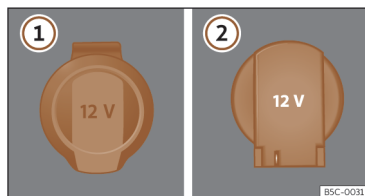

Fig. 143 12 volt power socket: ① inside the front armrest, ② in the luggage compartment.
- Lift the power socket cover >>> **Fig. 143** ①.
- Lift the power socket cover >>> **Fig. 143** ②.